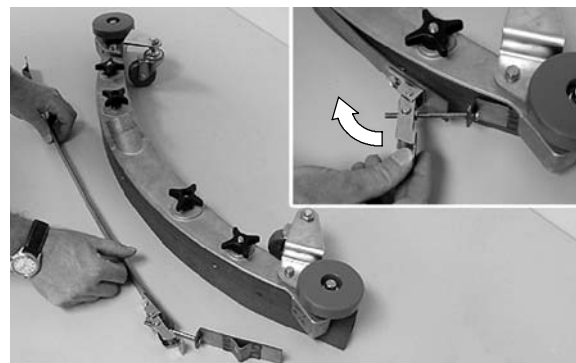

FIG. 52
2. Loosen the band clamp and remove the band from the squeegee assembly (Figure 52).